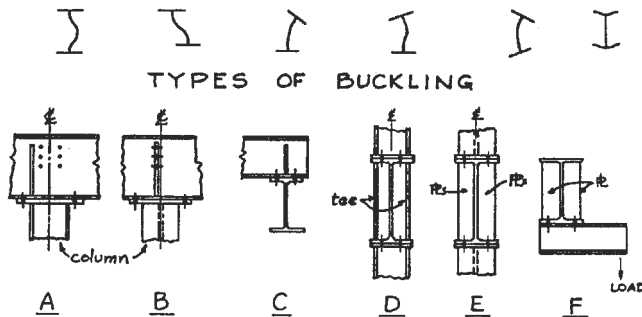

Figure 9
**Avoid calling for the indiscriminate use of stiffeners.** Allow partial-depth stiffeners where applicable. Stiffeners are required to prevent local deformation or to transfer load from one part of a member to another (see Figure 9). If the main members are capable of taking care of themselves, then the cost of stiffeners can be saved.